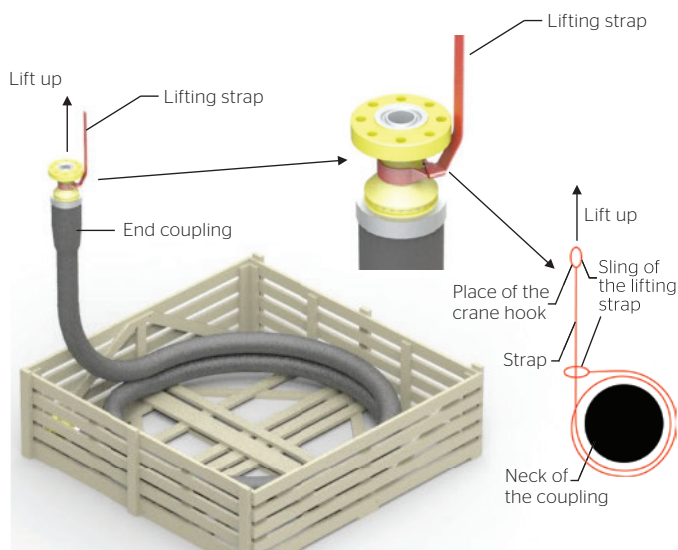

Fig. 12 Unpacking by using sling on the neck of the flexible line assembly
- Alternatively, if the diameter of the end connector coupling is considerably larger than the coupling's neck, the flexible line can be lifted by choking/tightening with a lifting strap as shown in Fig. 12. The lifting strap has to be wrapped around the neck of the coupling at least two full turns. The sling of the lifting strap has to be fixed to the crane's swivel hook to prevent twisting the flexible line.